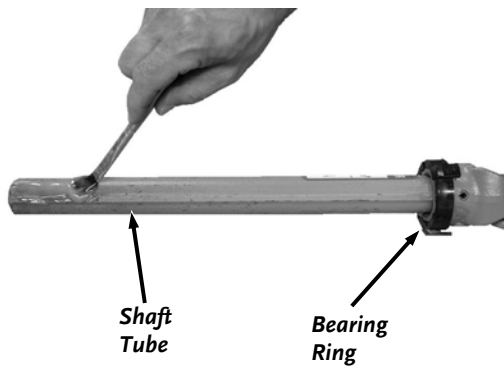

Figure 21
6. Grease both Shaft Tubes and under the Bearing Rings of each Shaft (**Figure 21**).